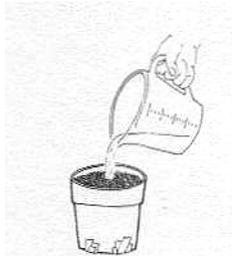

Figure 4. Saturating the medium.
3) Using the measuring cup, wet the medium (Figure 4). Keep track of the number of cups of water it takes to thoroughly saturate the medium. When a thin film of free water appears at the soil line - that is, when the medium is water-saturated - stop!